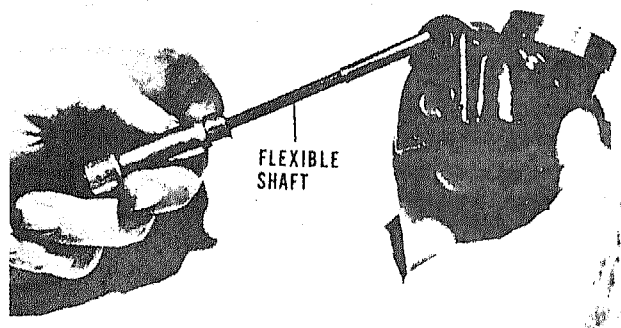

Figure 7. Inserting Tapped End of Flexible Shaft into Drive Roll Housing
- d. Insert left-hand tapped end of flexible shaft into top hole of drive roll housing (Fig. 7) to engage end of wormshaft within housing.